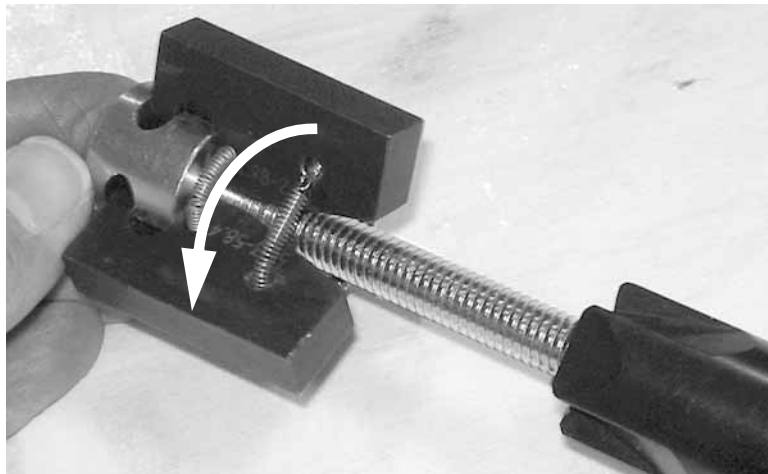

Figure 5-9. While pushing in on the drawbar, turn it to thread it into the machine. Screw it all the way in.
- 11.** Push the drawbar into the machine until it stops. Turn it as shown in Figure 5-9 to thread the drawbar into the machine.